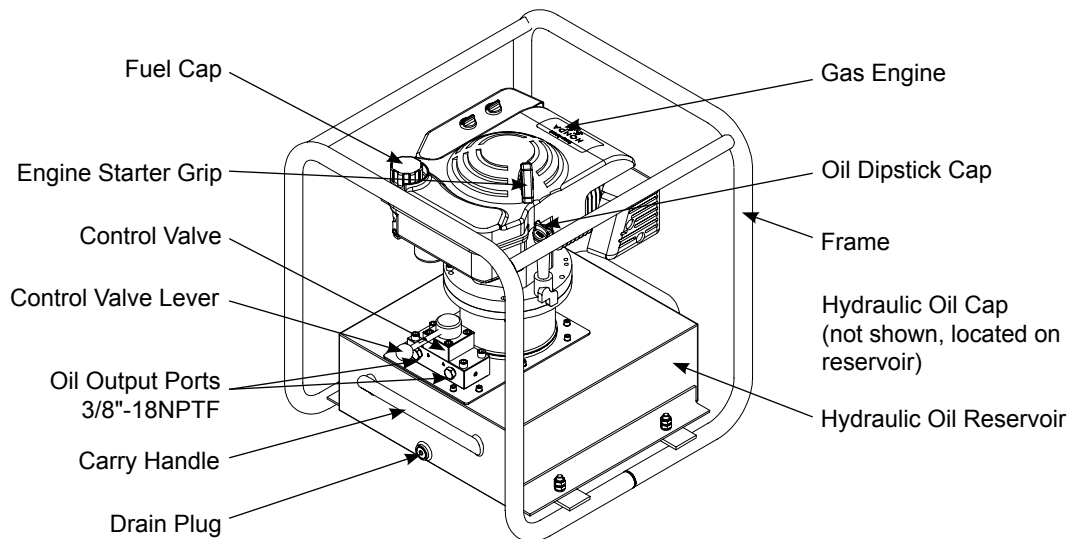

Figure 1 - Model PG5505 Components
2. Familiarize yourself with the specifications and illustrations in this owners manual. Many malfunctions in new equipment are the result of improper operation and/or improper set-up assembly. Know your pump, its limitations and how it operates before attempting to use. Refer to specification chart and figure 1 on page 2 for details of oil port thread size, usable oil capacity and more. Read and follow all instructions carefully.